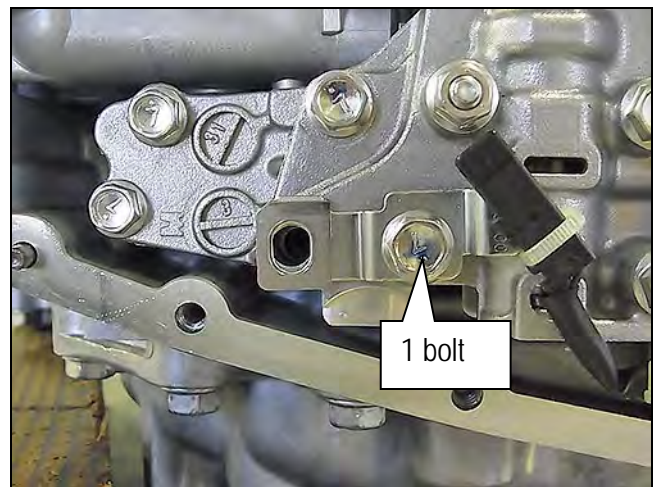

Figure 32
6. Install the CVT fluid temperature sensor bracket to the valve body with one (1) bolt (Figure 32).
**NOTE:** Leave one (1) bolt hole blank as it will be used to secure the oil strainer at a later step.